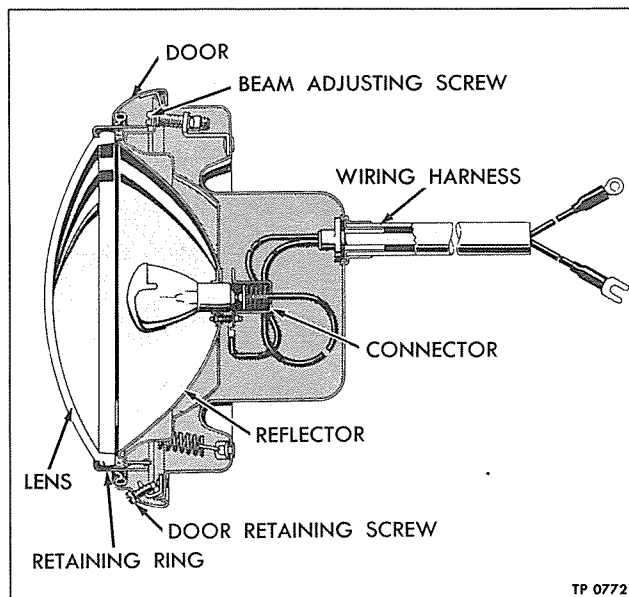

Figure 4—Fog Light Assembly
1. Remove fog light door retaining screw, then remove door (fig. 4).